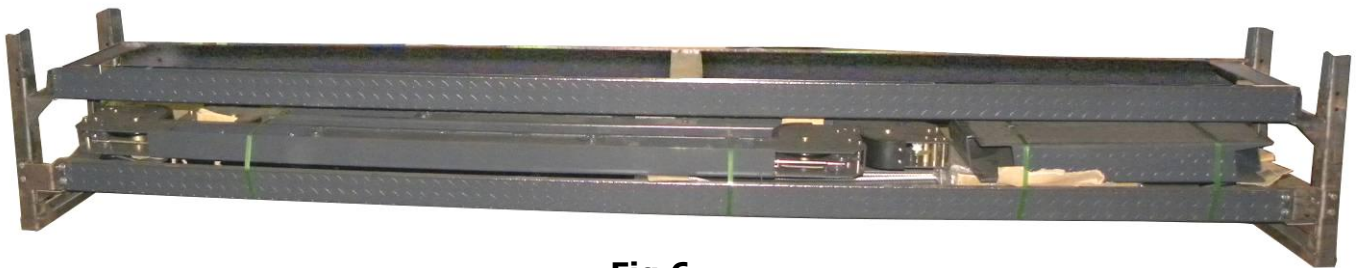

Fig.6
3. Take off the drive-in ramps and columns (See Fig.6)